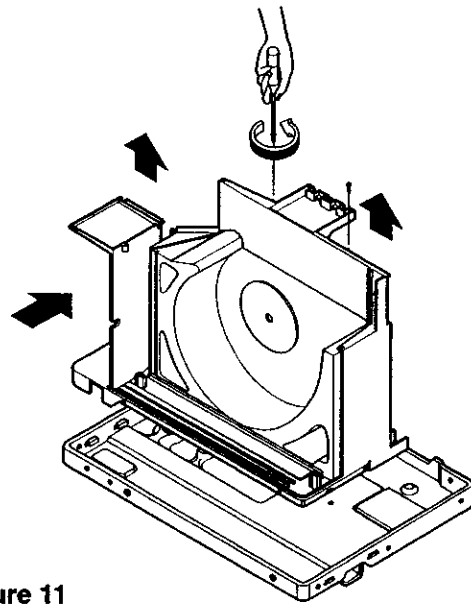

Figure 11
9. Remove 2 screws that secure the air guide to the base fan. (See Figure 11)
(See Figure 11)